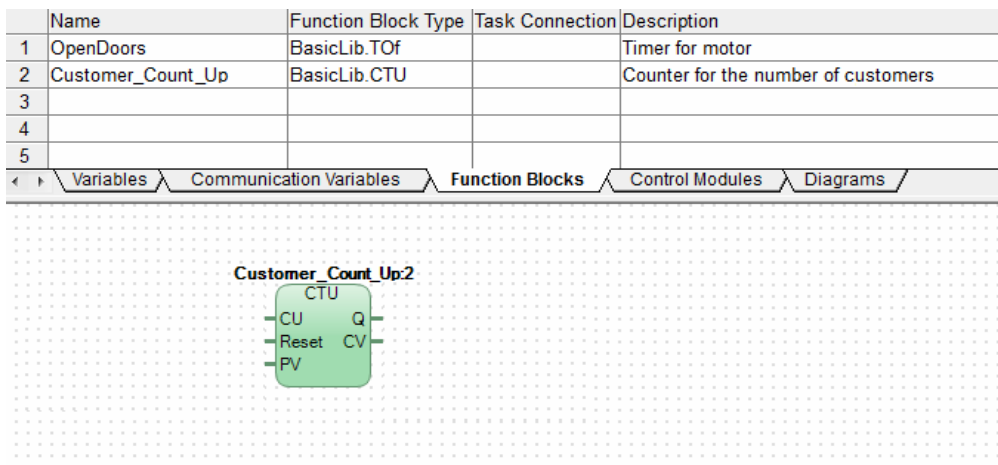

Figure 25. Declare CTU Function Block Type in Number_of_Customers page
- Customer_Count_Up function block is created as in the Figure 25. Add the description according to Figure 25.